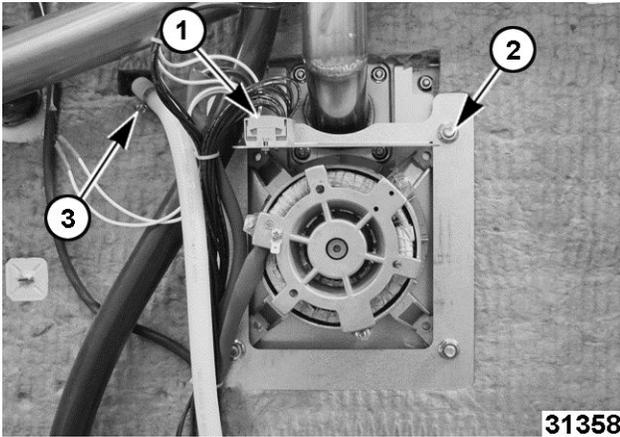

Fig. 86
- Remove humidity hose clamp (3, Fig. 86).
4. Note and disconnect motor wires (1, Fig. 86).
5. Remove nuts, shroud and spacers if they exist (2, Fig. 86).